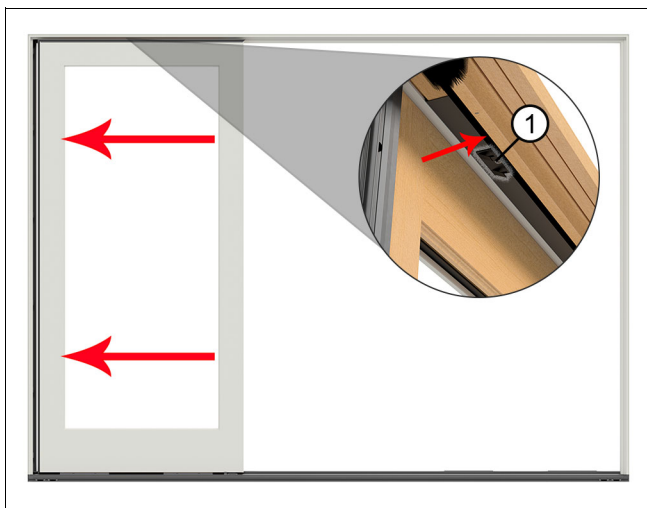

Figure 19
4. Slide the panel over to the side jamb and then push the top in until it contacts the wood parting stop. See Figure 19. Clips at the head jamb will hold the panel in place and aid in alignment.